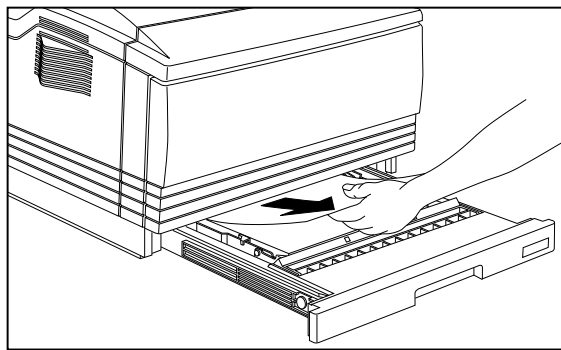

Fig. 10.5 Remove Media from the Cassette Area
- b. If you find a jam, remove the media (fig. 10.5) from the cassette slot. If you use two cassettes and cannot remove a jam from the lower cassette slot, remove it through the upper cassette slot.